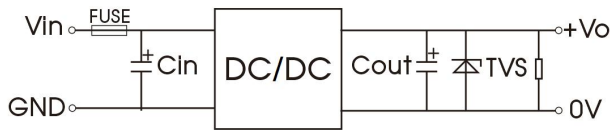

Fig. 1
- (1) We recommended using the recommended circuit shown in Fig.1 during product testing and application, otherwise please ensure that at least a 100µF electrolytic capacitors is connected at the input in order to ensure adequate voltage surge suppression and protection.
- (2) We recommended increasing the value of Cin and pay attention to the unstable input voltage if the product input side is paralleled with motor drive circuit and/or larger energy transient circuits, to ensure the stability of input terminal and avoid repeatedly start-up problems due to input voltage lower than undervoltage protection point.
- (3) We recommended increasing the output capacitance with limited to the capacitive load specification and/or increasing the voltage clamping circuit(such as TVS) if the output terminal is inductive device such as relay or a motor, to ensure adequate voltage surge suppression and protection.
- (4) Input and/or output ripple can be further reduced by appropriately increasing the input & output capacitor values Cin and Cout and/or by selecting capacitors with a low ESR (equivalent series resistance). Also make sure that the capacitance is not exceeding the specified max. capacitive load value of the product.